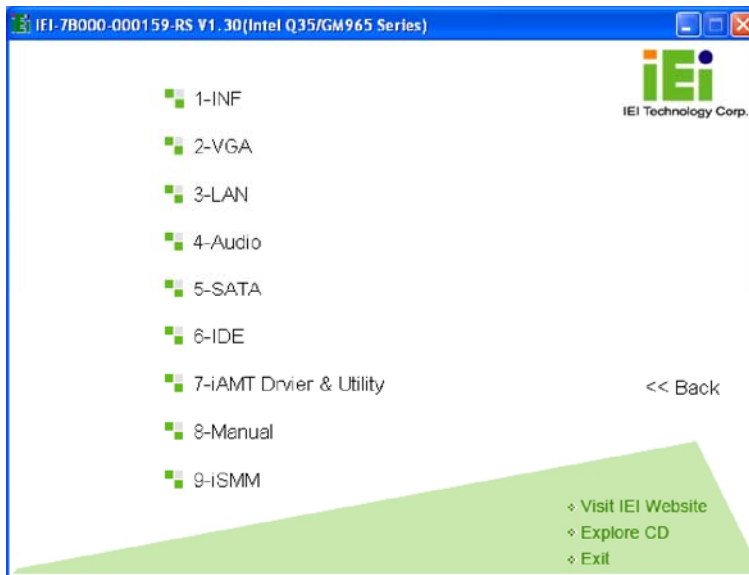

Figure 7-2: Drivers
Step 4: The list of drivers in **Figure 7-2** appears.